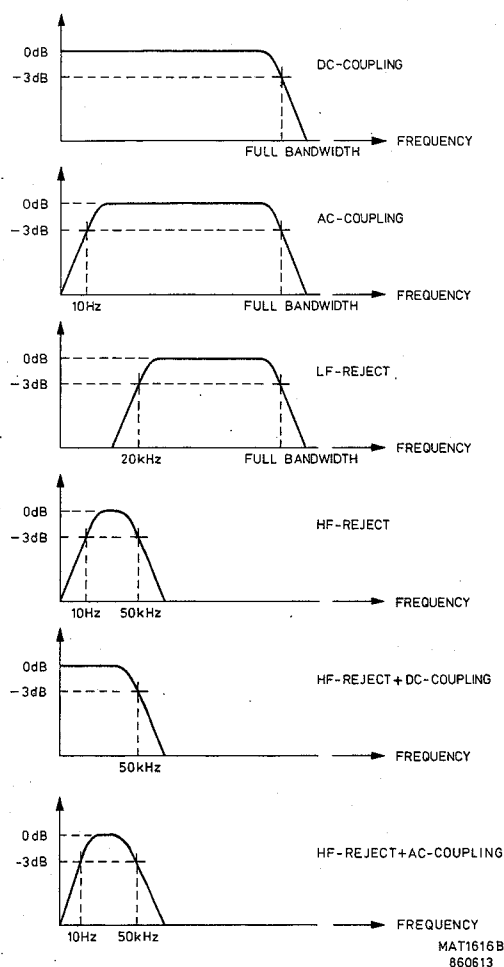

Fig. 4.5. MTB and DTB trigger filter responses
**Filters** can be applied for the selected MTB trigger source. The filter mode can be selected by means of the DC, AC, LF REJECT or HF REJECT pushbuttons. The belonging filter responses are shown in fig. 4.5.
The same sources and filters as those for MTB can be selected with the exception of LINE triggering. For trigger filter responses see fig. 4.5.